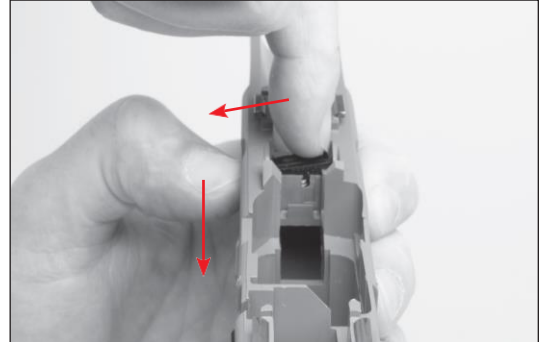

Fig. 78
- Press the slide lock down on one side with your finger. Push the slide lock to the side and out of the receiver while keeping your thumb over the spring. (Fig. 78/79)